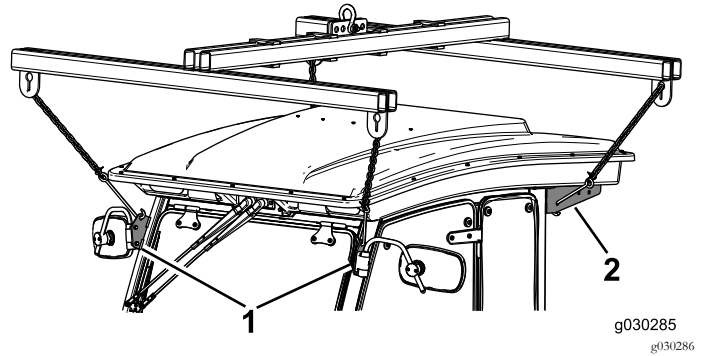

Figure 17
2. Connect the cab hoist to the 4 lift points on the cab (Figure 17).